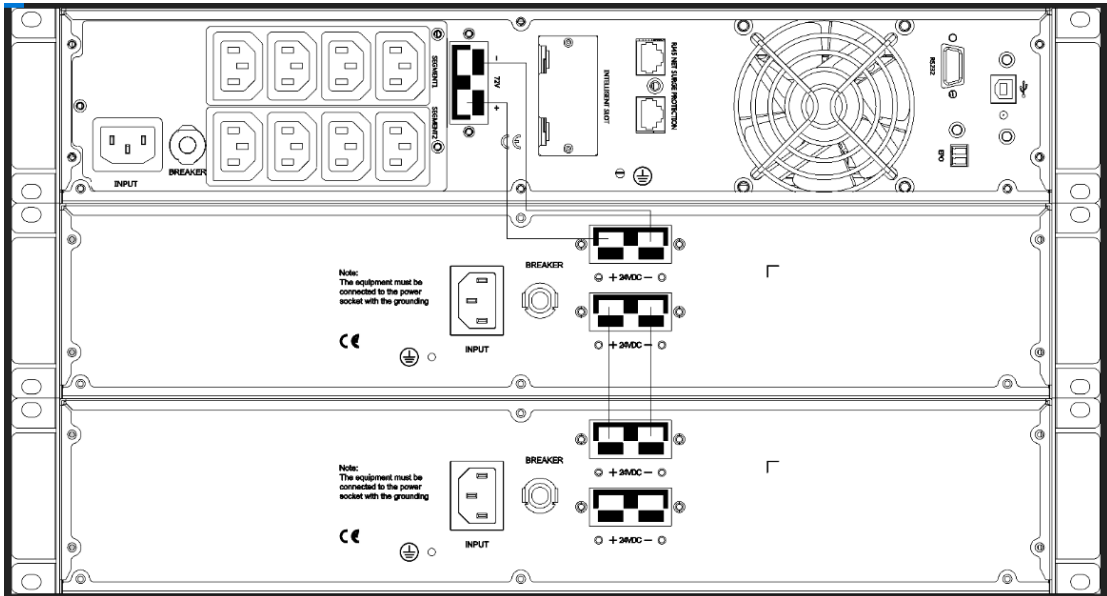

Figure 14: The installation for UPS and battery boxes
- The installation between UPS and EBPS can be referred to Figure 14
- a) Install the base, then place the RT UPS on the base one by one as Figure 14 shows.